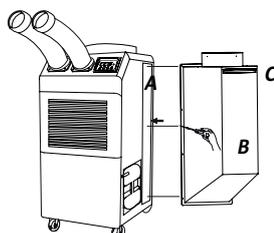

Figure 8
3. Install "B" which contains "C" by using driver with enclosed bolts (6EA) as Figure 8.